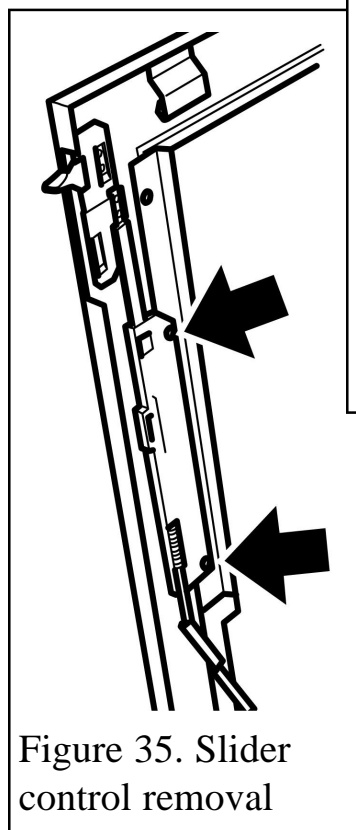

Figure 35. Slider control removal
2. Detach the slider control from the fascia by removing two screws (See figure 35).